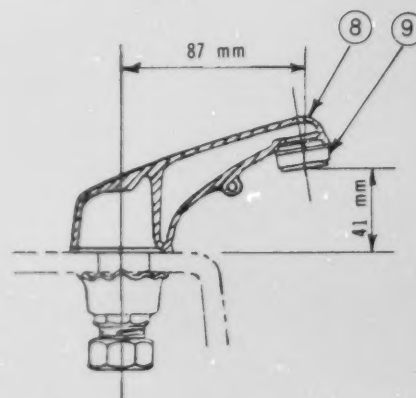

Figure 23-6. Crane Dial-Ese Faucet
10. There are many other types of faucets, a few of which are described. The first is one of several types of the Dial-Ese faucet made by Crane (Figure 23-6).
11. Following are identifications of the numbered components in Figure 23-6.